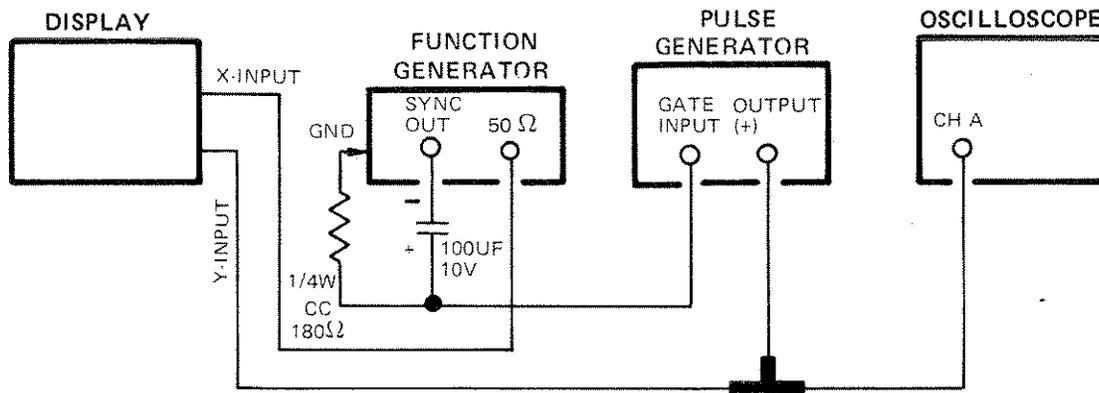

Figure 4-1. Dynamic Range Test Setup
- a. Connect equipment as shown in figure 4-1.
Sync output from the recommended function generator (table 1-4) must be shifted to gate the pulse generator. The R-C network shown in figure 4-1 shift the output level from the function generator to assure stable gating of the pulse generator.